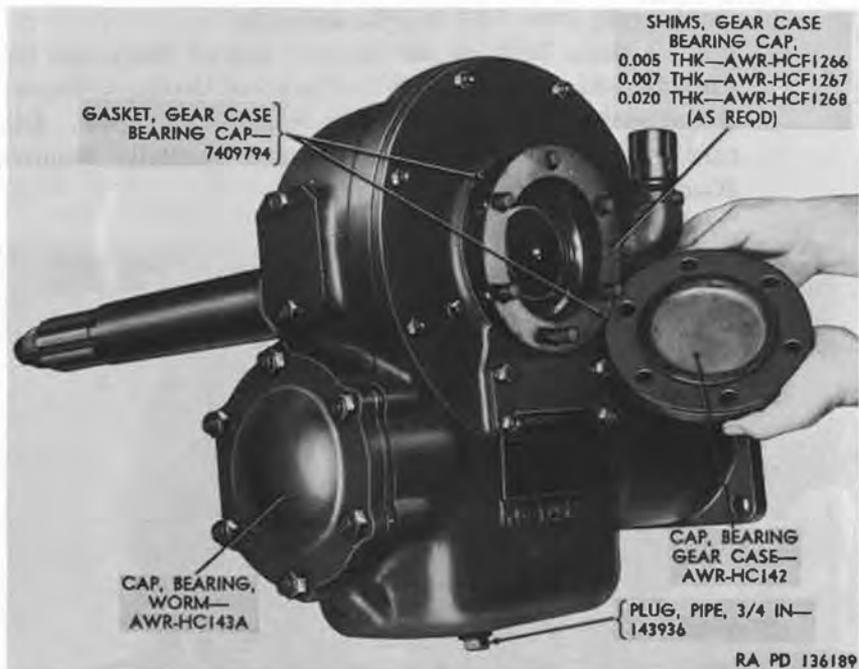

Figure 37. Gear case bearing cap removed.
- (1) Remove six safety nuts (C) and take off gear case bearing cap (D), gasket (E), and shims (fig. 37).
- (2) Remove six safety nuts and take off worm bearing cap (fig. 37) and gasket.